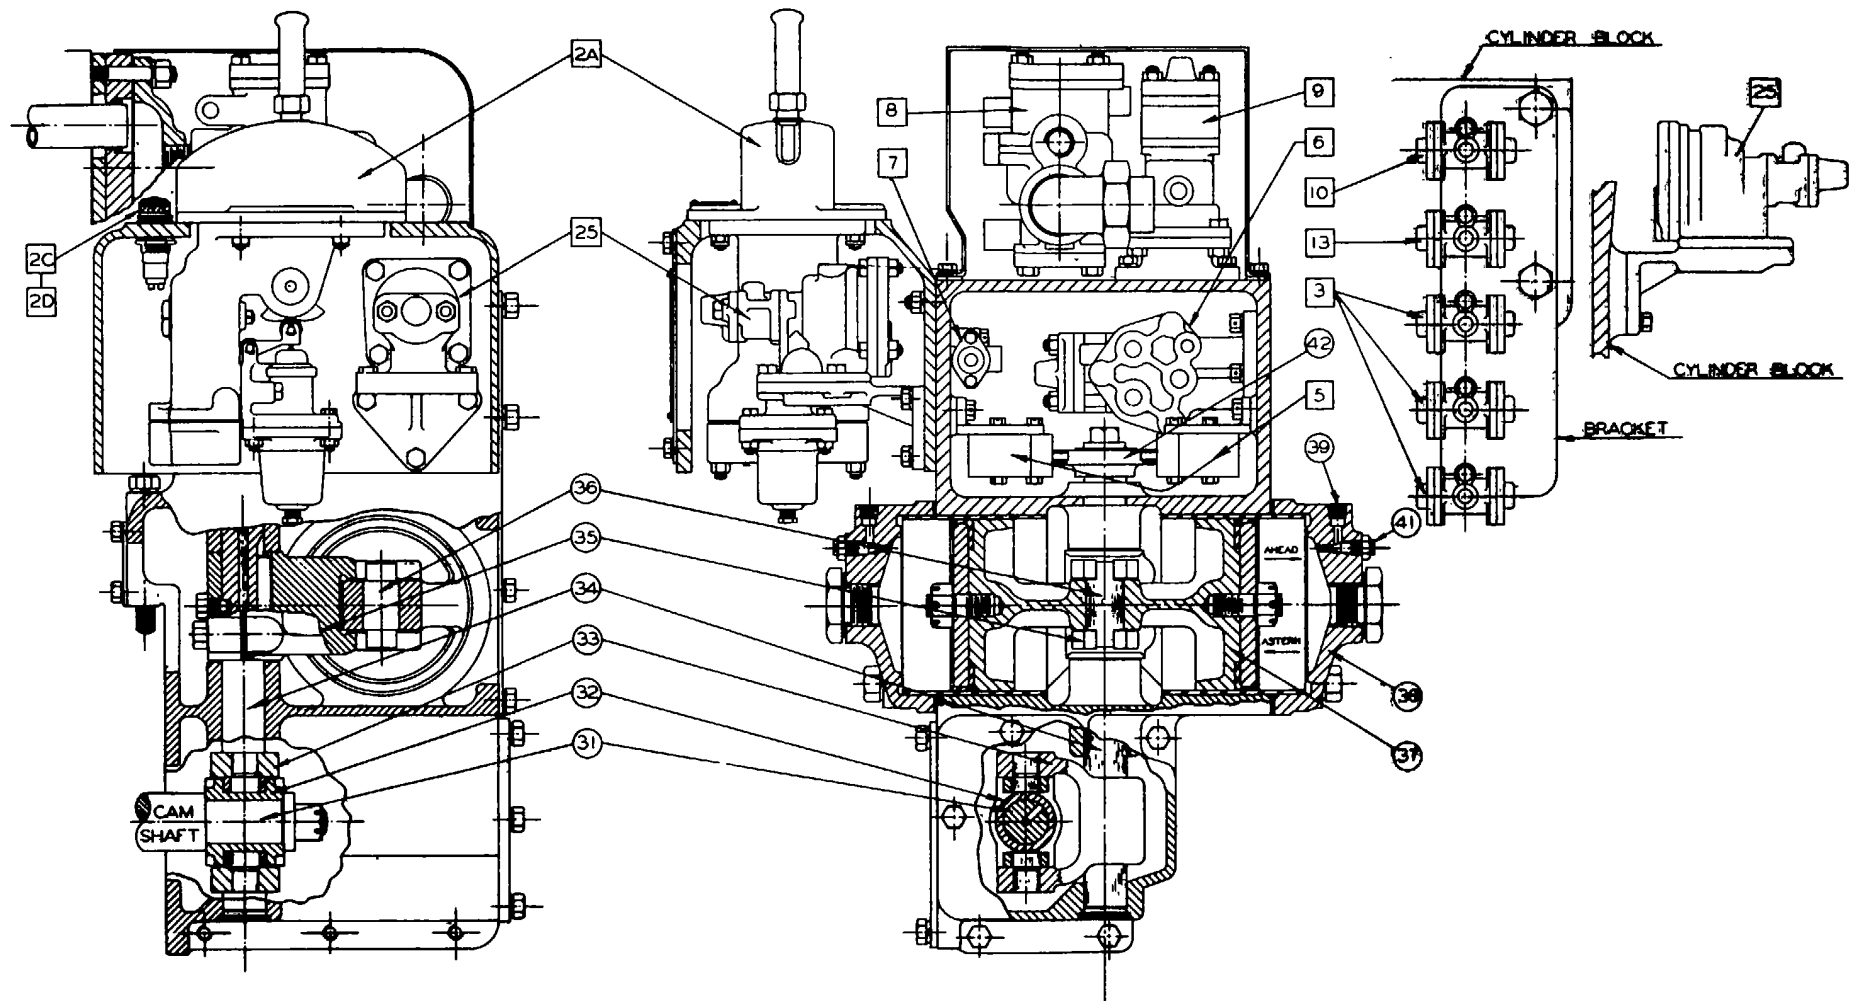

FIG. R-1.
3. WESTINGHOUSE EQUIPMENT MOUNTED IN OR ON THE CONTROL UNIT (See Fig. R-1)
Referring to Fig. R-1 the various Westinghouse parts are given the same reference numbers (below number 30) as on the schematic piping diagrams and on specification I-302.8B found in the Westinghouse Section under "Auxiliary Equipment". No further description of these units and their connections will be given here.
4. CAMSHAFT SHIFTING MECHANISM IN CONTROL UNIT (See Fig. R-1)
The camshaft (31) is shifted from AHEAD to ASTERN position or vice versa by means of an air cylinder piston connected by means of shifting levers and links shown on Fig. R-1. When shifting air under pressure is directed by Controlair unit (2A) through Relayair valves (25) to one side of air shifting piston (37) while the other side of this piston is connected to atmosphere causing the piston to move in the proper direction for shifting until it comes up against one of the two cylinder heads (38). Thus the shifting piston always traverses its entire stroke. (In standard port engines with rotation for right hand propellers, the piston movement is to the right when shifting from ASTERN to AHEAD. See arrows marked AHEAD and ASTERN on Fig. R-1.)